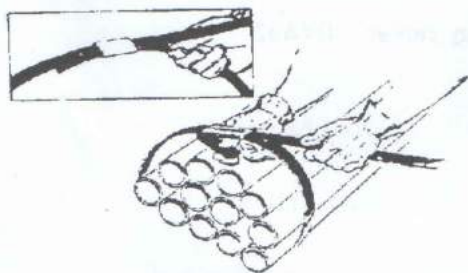

图2 (Fig2)
1.如图 2 所示, 先将锁扣套在捆扎用的钢带上, 并将钢带绕物体一周再插入锁扣, 在离锁扣外大约 50mm 处翻折。
1.As indicated in Fig. 2, put a buckle thread the strap, encircle the bundle and rethread the strap end through the seal. Bend the strap back under the seal about 50mm .